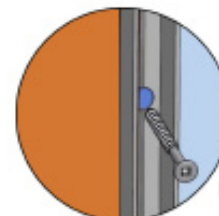

FIG.9
- Inject silicone into and around screw holes (FIG 9). Ensure wall channel is plumb, then screw in place.